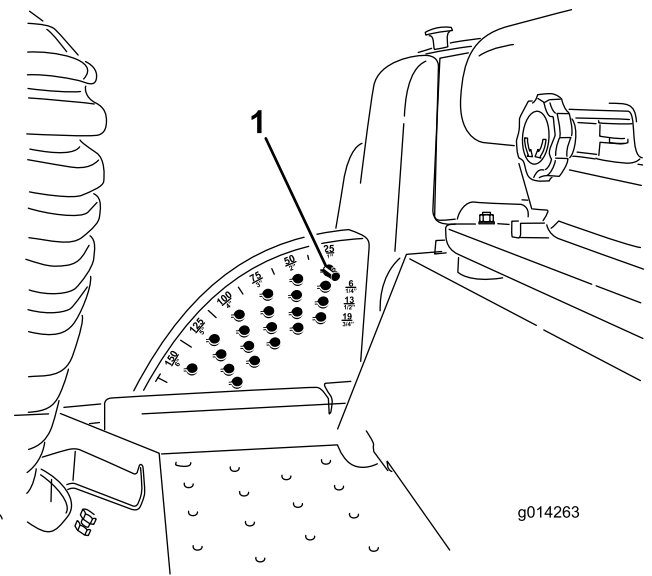

Figure 18
1. With the engine running, push back the deck-lift switch until the cutting unit is fully raised, and **release the switch immediately** as shown in Figure 18.
2. Rotate the height-of-cut pin until the nub on it lines up with the slots in the holes in the height-of-cut bracket and remove it (Figure 18).
3. Select a hole in the height-of-cut bracket corresponding to the desired height of cut, insert the pin, and rotate it down to lock it in place (Figure 18).
Note: There are 4 rows of hole positions (Figure 18). The top row gives you the height of cut listed above the pin. The second row down gives you the height listed plus 6 mm (1/4 inch). The third row down gives you the height listed plus 12 mm (1/2 inch). The bottom row gives you the height listed plus 18 mm (3/4 inch). For the 15.8 cm (6 inches) position, there is only 1 hole, located in the second row. This does not add 6 mm (1/4 inch) to the 15.8 cm (6 inches) position.